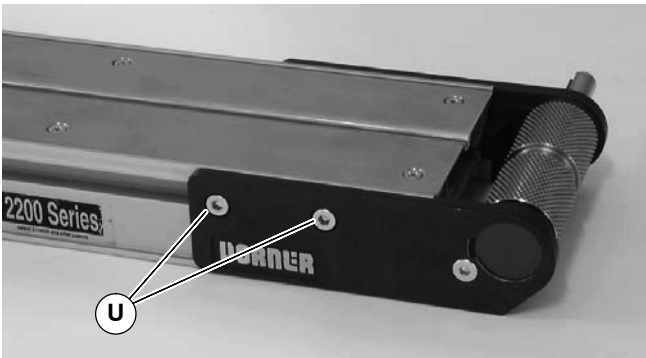

Figure 44
4. Install pulley assembly on conveyor. On both sides of conveyor tighten fastening screws (U of Figure 44) to 7 Nm.